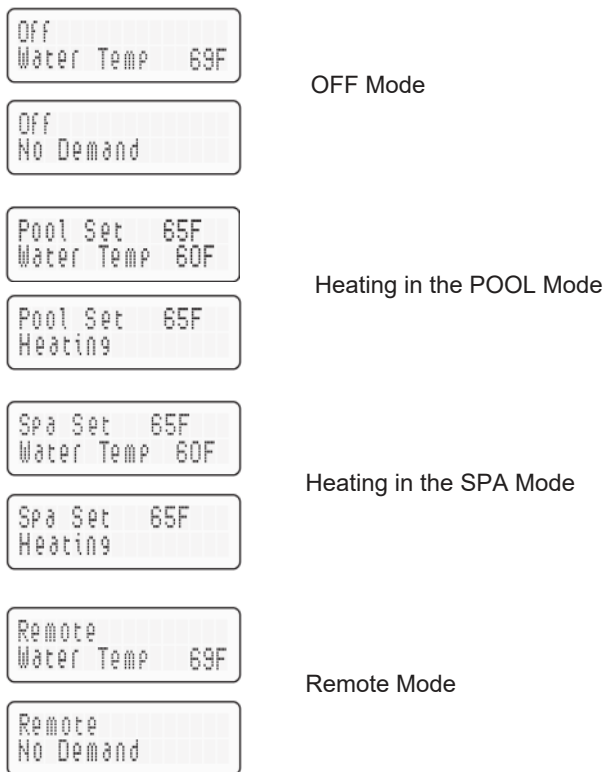

Figure 51. Remote Control Menu - Remote Operation
**⚠ CAUTION:** Before installing remote controls to the digital heaters, read the following: The digital thermostat model is remote-ready in most cases. The digital liquid crystal display (LCD) shows the actual pool temperature, operating status, and service codes. See Figure 51. The touch pad on the control panel allows you to select the desired pool or spa temperature. It also indicates when a remote system is controlling the heater by displaying **Remote** in the display. When connecting the heater to a remote system, identify whether it is a two- or three-wire remote system. Select the appropriate instruction listed below to properly install the remote to the heater.